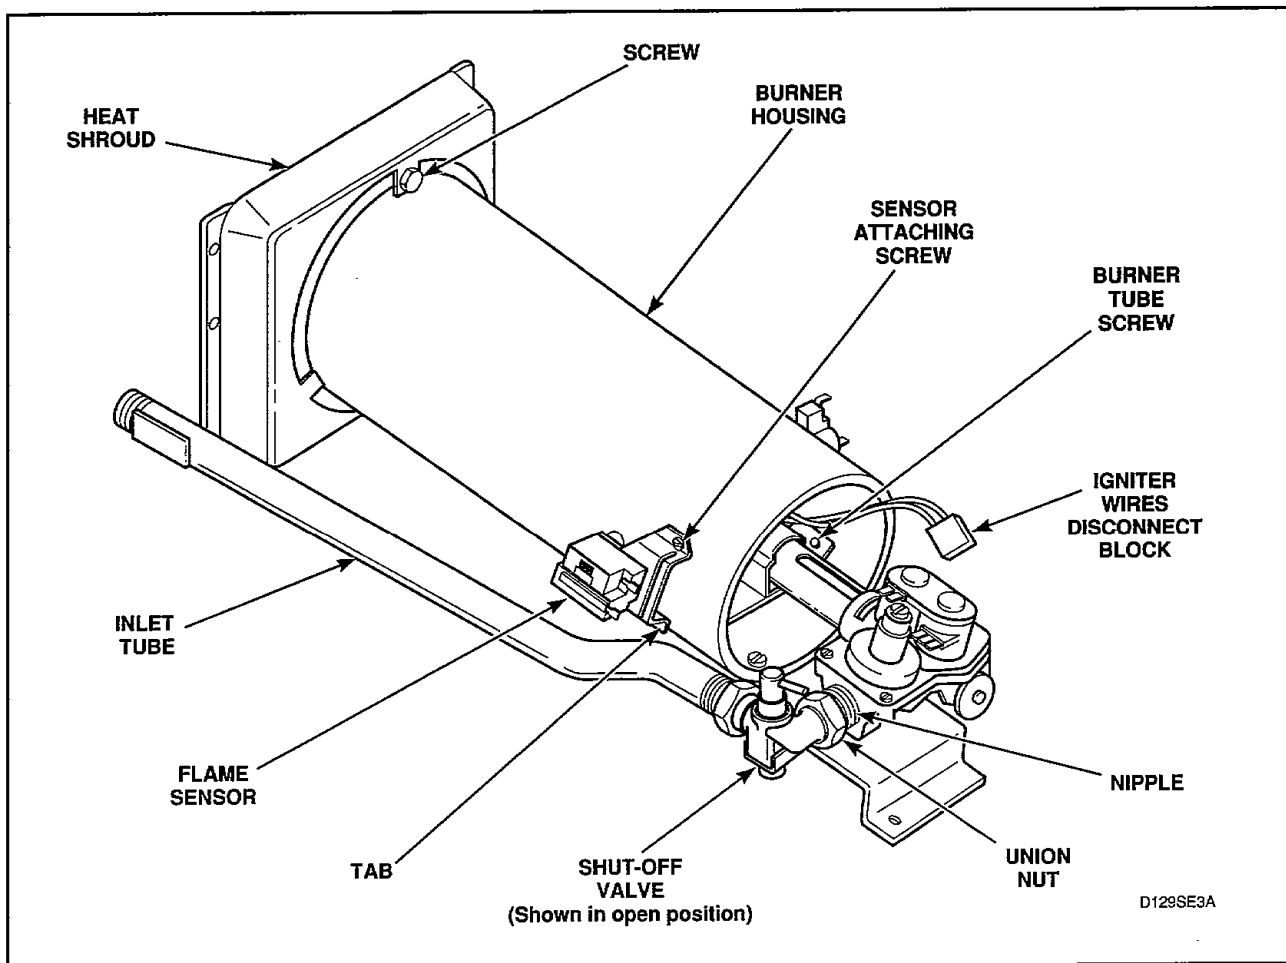

Figure 52
- Close gas shut-off valve, *Figure 52*.
- Remove wires from sensor terminals, *Figure 52*.
- c. Close gas shut-off valve, *Figure 52*.
- d. Disconnect igniter wires at disconnect block, *Figure 52*.